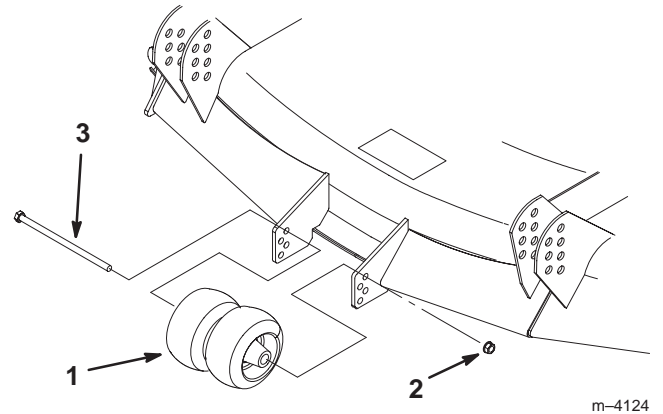

Figure 12
1. After adjusting the height-of-cut, remove the bolt and the nut (Fig. 12).
2. Select a hole position so that the gage wheel is 3/8 inch (9.5 mm) off the ground for the desired height-of-cut (Fig. 12).
3. Install the bolt and the nut (Fig. 12).